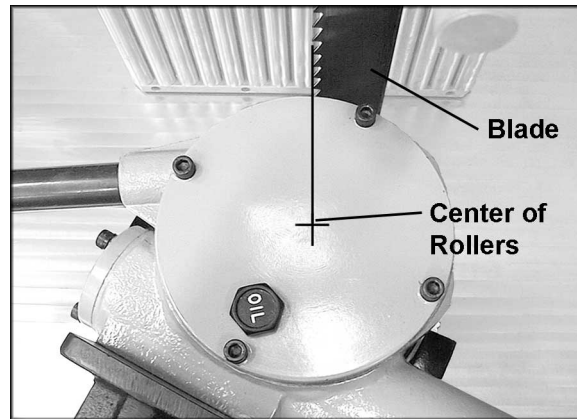

Figure 8
6. It is important that the serrated rollers of the Stock Feeder are properly positioned in reference to the blade. Figure 8 shows how the center of the rollers should be aligned with the front tips of the blade teeth. The gearbox top cover is aligned with the rollers, so you can use the top cover's center for making this alignment. See Figure 8.